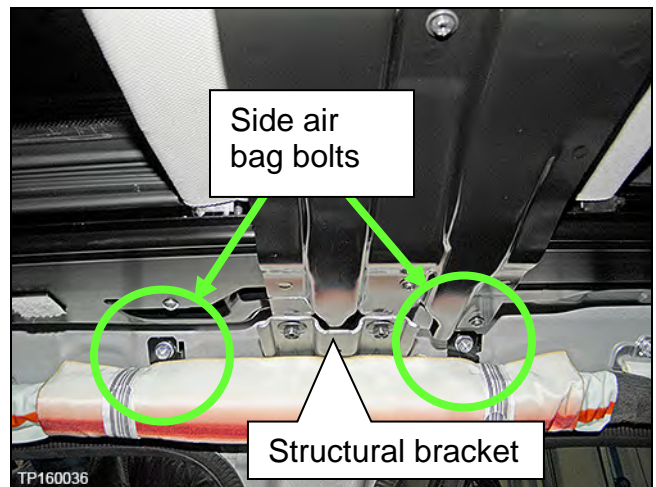

Figure 64
3. Remove the two side air bag bolts (per side) that attach the left and right side airbags to the roof rail, and then allow them to hang free (Figure 64).